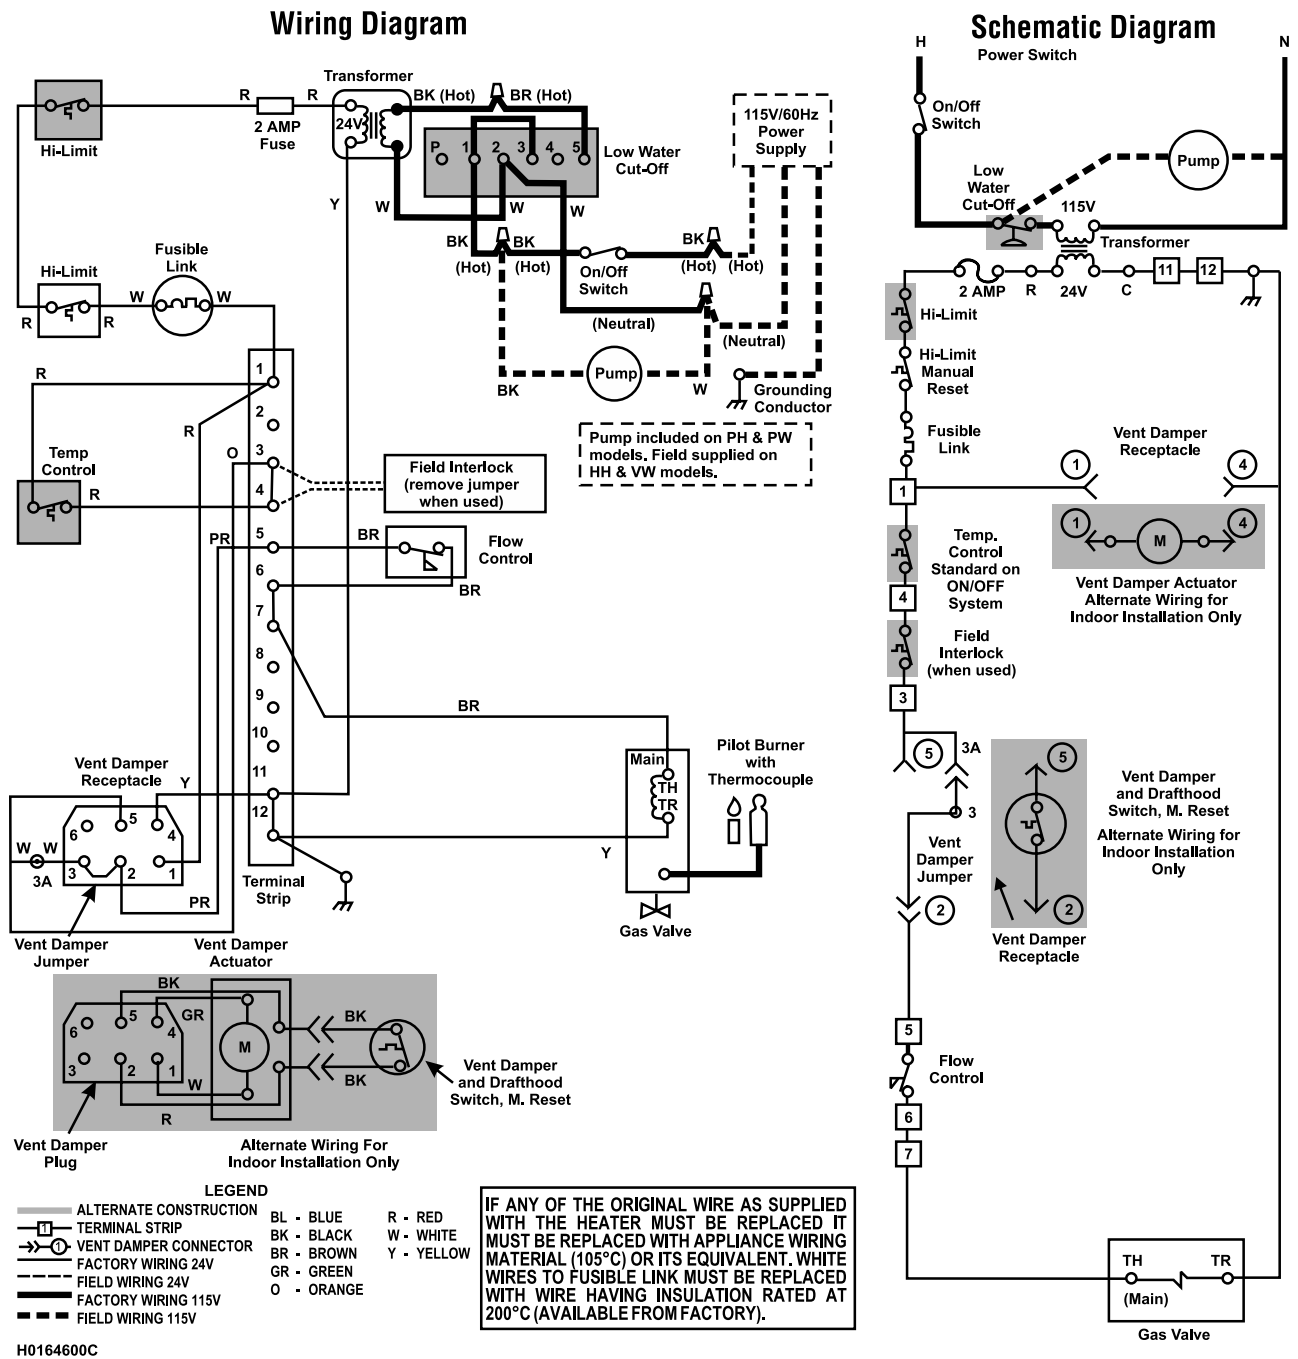

Figure 28. Typical Example of Wiring Schematic, System 1.
2. Wire the boiler and pump exactly as shown on the wiring diagram found on the inside of the boiler. See Figures 28 and 29 for typical examples of the wiring diagram.
4. Connect all field-installed devices (draft switches, relays, timers, outdoor temperature reset devices, etc.) (see Figures 28 and 29) to the boiler wiring at points labeled Field Interlock.